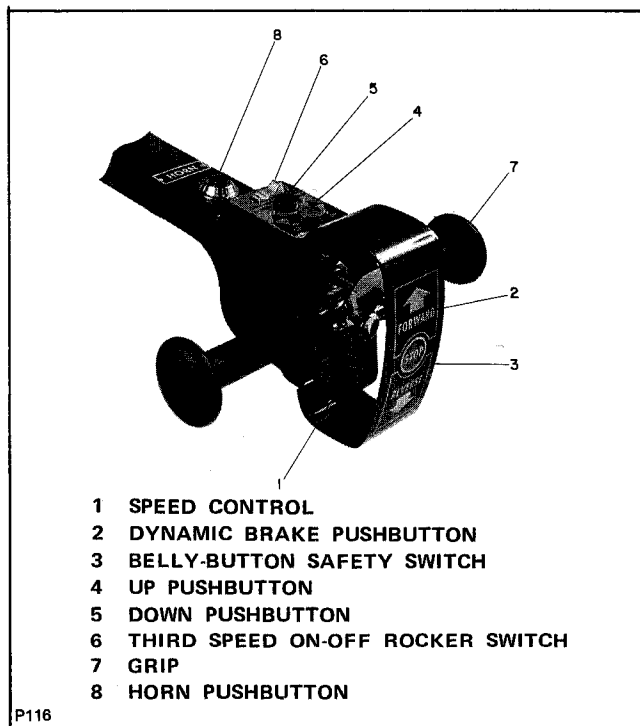
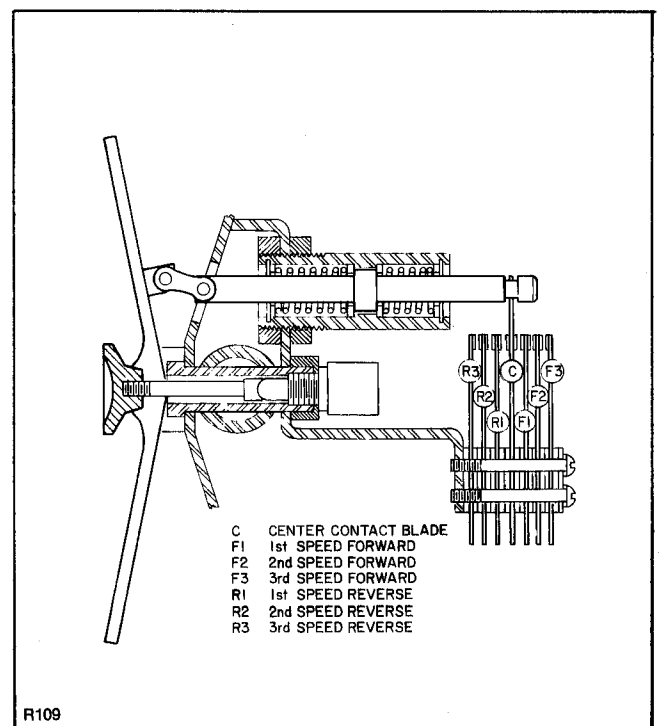

Figure 2-1. Steering Arm Controls
Figure 2-2. Speed Control
The speed control (see figure 2-1) located inside the belly-button safety-guard provides fingertip control for driving the truck. As the upper portion of the speed control is pressed, it closes contacts for first speed in forward direction. Pressing the speed control farther closes contacts for second and then third speeds (see figure 2-2). The lower portion of the speed control governs the three reverse speeds in the same manner.
1. If truck is carrying no load or a light load, turn THIRD SPEED rocker switch (6, figure 2-1) OFF.